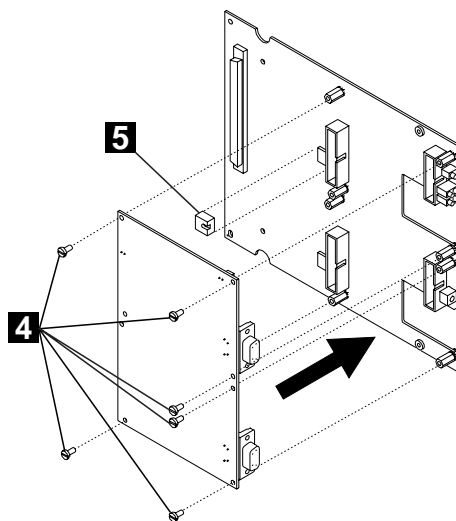

Figure 6. Attaching the I/O Card
- **5** Attach the I/O card to the motherboard using the four screws provided (**4** in Figure 6).